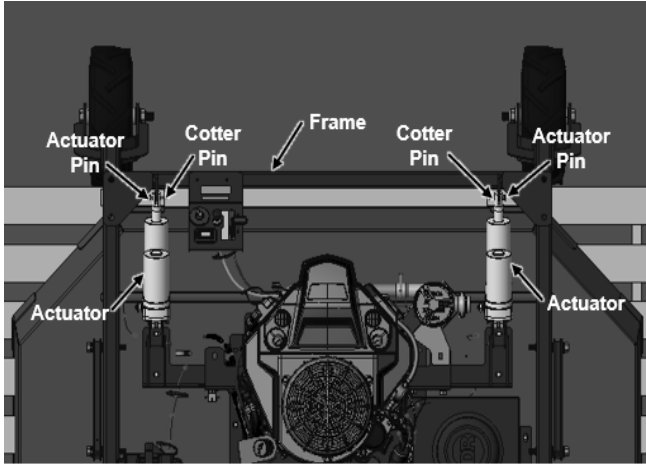

Figure 8
1. Align the Frame with both the Actuators (*Figure 8*).
3. Insert the Actuator Pin PN: 397351 through the Actuator and Frame and secure with the use of the Cotter Pin PN: 235001 (*Figure 8 & 9*) Do this for each Actuator.